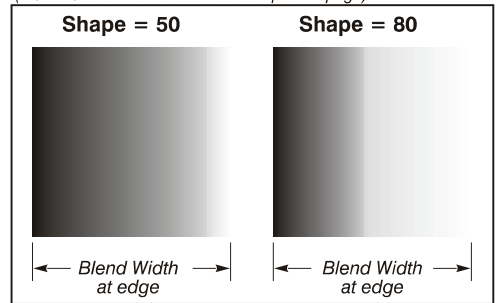

Figure 3.20. “Shape” Examples
- **Blend Shape** determines the rate of roll-off across the blend width, i.e. how quickly the white levels across the blend change from light and dark. Increasing the *Blend Shape* setting accelerates the rate of change at both extremes so that less of the region appears mid-gray (see Figure 3.20). Decreasing the *Blend Shape* setting slows the rate of change so that more of the region appears mid-gray. For most applications, this subtle control is best left close to 50.